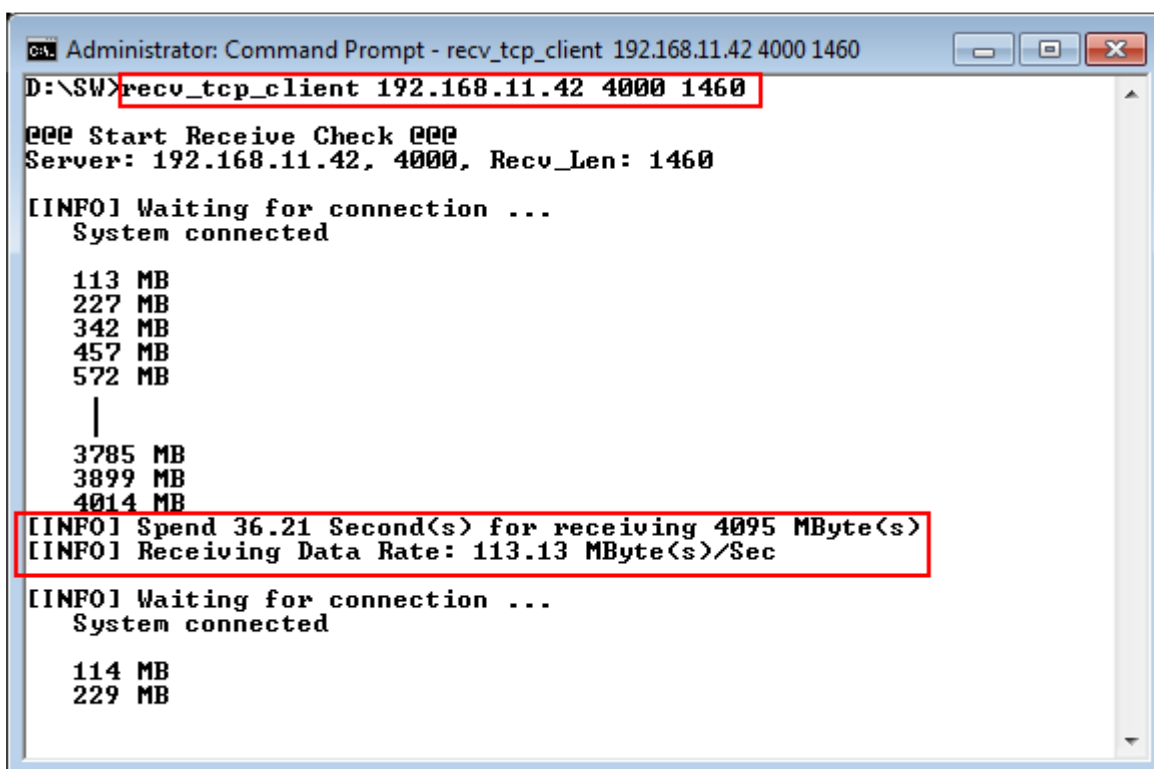

Figure 4-10 Non-Jumbo frame Sending Demo
- Test application displays received data size during transferring. After end each transfer loop, time usage and performance will be displayed, as shown in Figure 4-10.